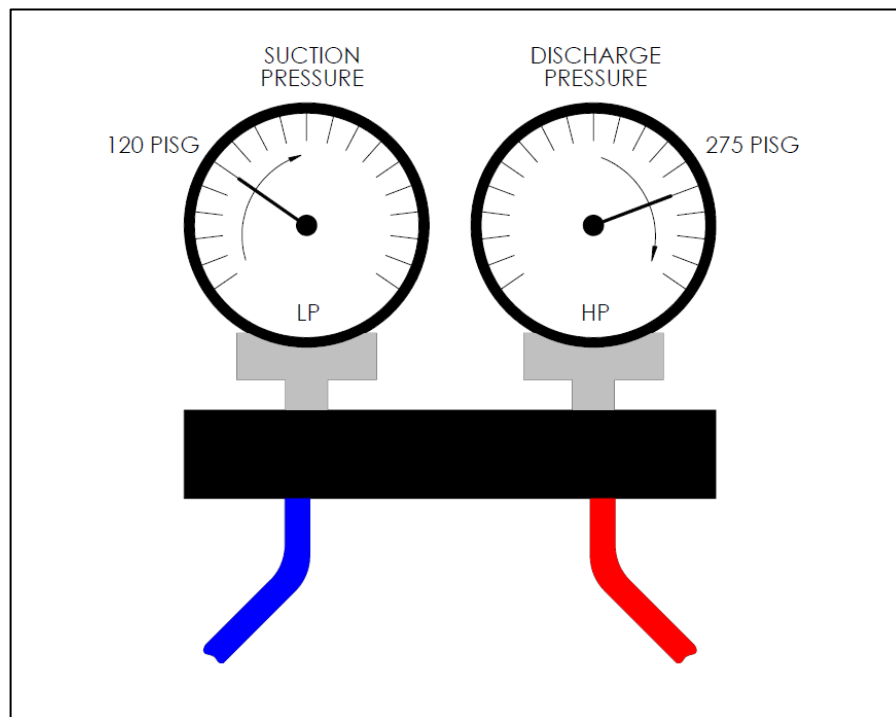

Figure 36. Minimum Suction and Discharge Pressures
10. **When the suction pressure is at least 120 psig and the INLINE sight glass shows refrigerant flow as clear or having a trickle of bubbles**, the next step is to **monitor the discharge pressure until it rises to 275 psig or greater**, as shown in Figure 36. When these conditions are met, proceed to step 11, adjustment of the TXV superheat.